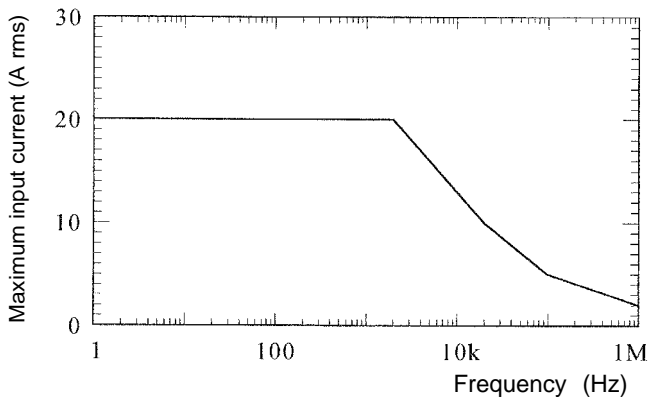

Figure 2 Maximum Input Range
- ◆ Continuous maximum 20 A (see Figure 2)